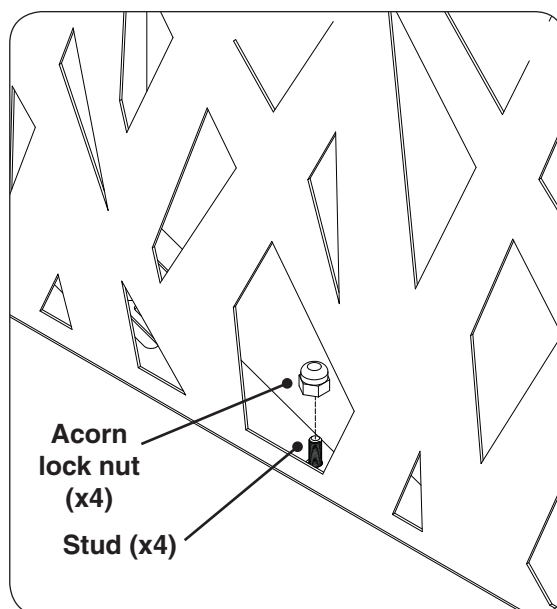

Fig. 23-2 Fasten top assembly to base
2. Using a $\frac{3}{8}$ " socket driver and the four acorn lock nuts provided, fasten the top assembly to the lantern base as shown in Fig. 23-2.